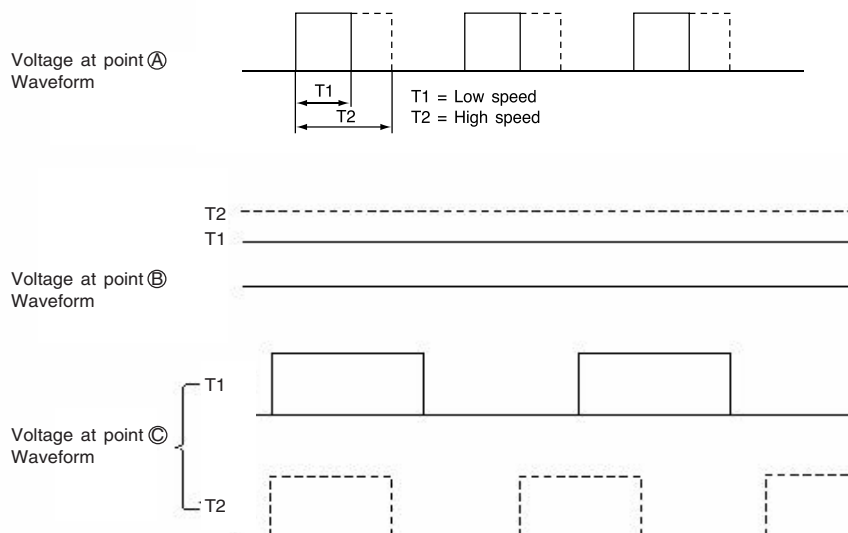

Fig. 7-2
- For the point A, 15.7 kHz PWM pulse will be output from the pin 24 on the micro computer as shown in Fig. 7-2. The pulse range will vary with different command speed.